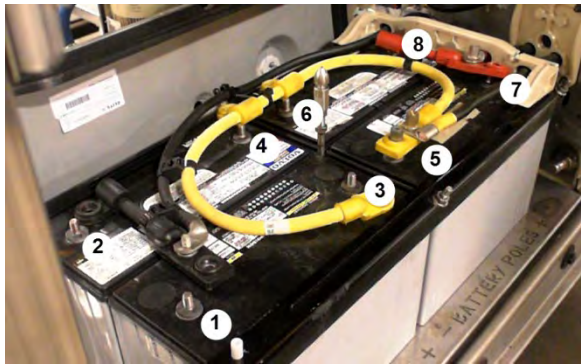

FIGURE 33: DISCONNECT 8 CABLE TERMINALS
3. Using a 9/16 hex socket box, disconnect the eight (8) battery cable terminals (*Figure 33*).